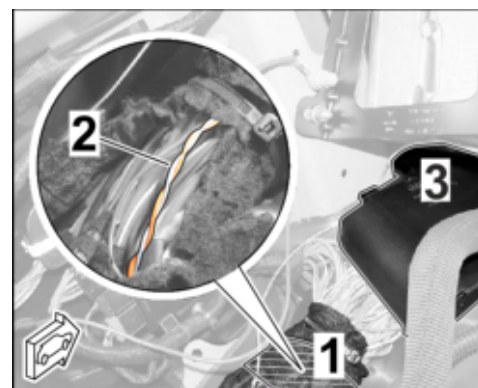

Figure 16
2.5.1 Carefully remove top of the winding of the wire harness in the rear left wheel housing cable duct (luggage compartment) area. ⇒ *Figure 16*
2.5.2 Carefully expose twisted CAN lines OR/BN; 0.35² (CAN Low) and GR; 0.35² (CAN High) to the TirePressureMonitor control unit (TPM, 7K3). ⇒ *Figure 16 -2-*
2.6.1 Route line BN; 0.75² (terminal 31) to earth bolt MB25. ⇒ *Figure 16*